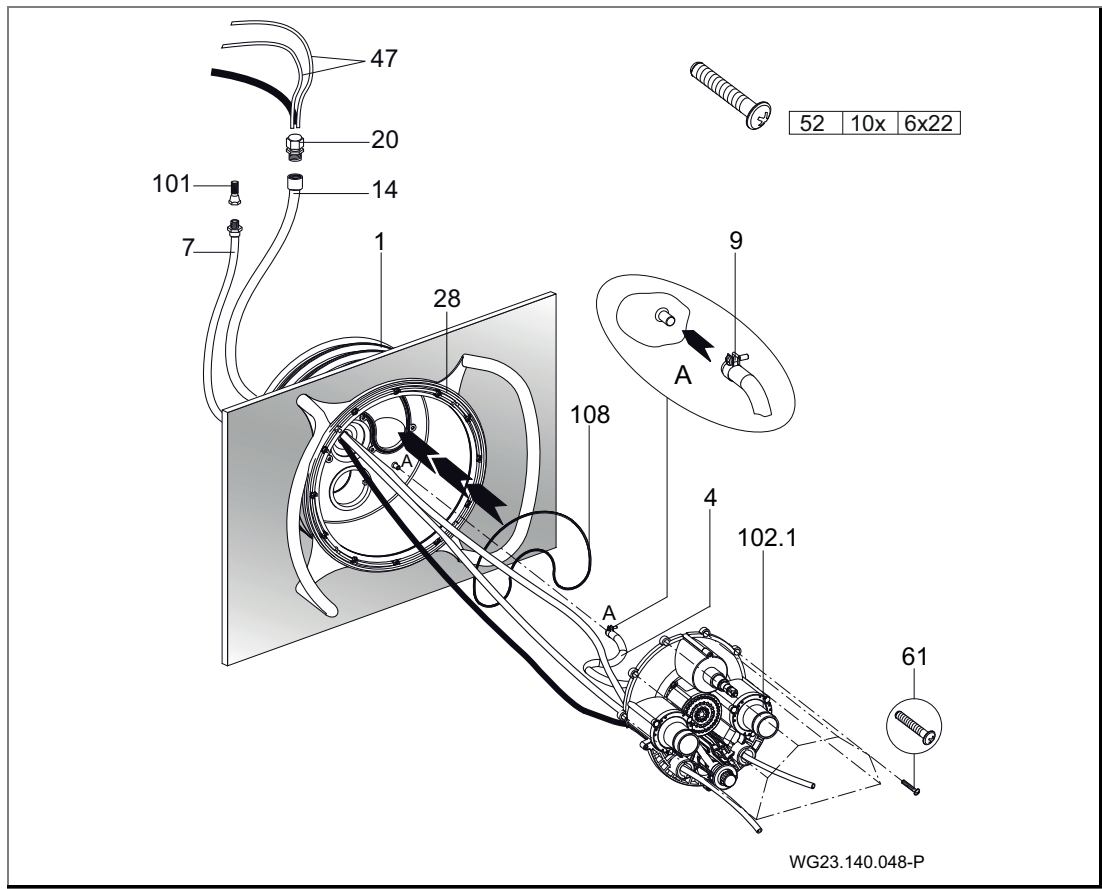

Fig. 16
2. Insert the O-ring (108) in the main housing (1). (Fig. 16)
3. Screw the ten enclosed tapping screws (61) into the nozzle housing. Place the pre-assembled nozzle housing (102.1) onto the main housing (1). (Fig. 16)
4. Lead the pneumatic hoses (47) and floodlight cables through the protective conduit (14) and seal with the cable gland (20). (Fig. 16)
5. Fasten the internal air line (4), which is already completely pre-assembled at the nozzle housing (102.1) or air regulator, to the main housing (1) with the hose clamp (9). (Fig. 16)
6. Lead the pneumatic hoses through the lower or outer openings of the nozzle housing (102.1); light ON/OFF left; pump ON/OFF right. (Fig. 16)
7. Align the complete nozzle housing (102.1) to the main housing (1) and fasten the ten pre-assembled tapping screws (61). (Fig. 16)